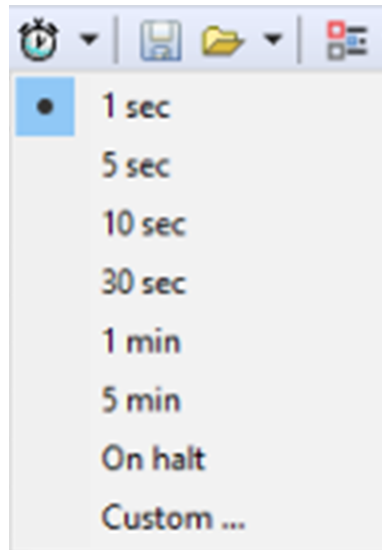

Figure 38. Set Measurement Duration
6. Select how long you want to capture data by clicking the 'Set Measurement Duration' button (see Figure 38).